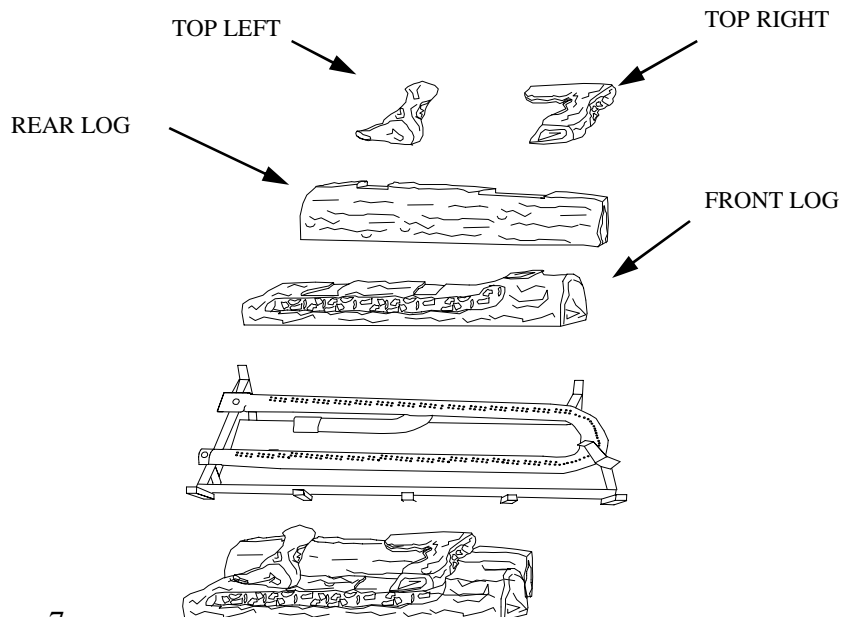

Figure 7
**WARNING: POSITIONING OF LOGS IS VERY CRITICAL (SEE FIGURE 7).**
- (1) POSITION REAR LOG (#2) , IN REAR LOG HOLDERS, CENTERING LEFT TO RIGHT.
- (2) PLACE FRONT LOG (#1) OVER FRONT PART OF BURNER TUBE. LOCATE LOG IN CENTER OF BURNER BASE. MAKE SURE MIDDLE SUPPORT LEG OF FRONT LOG IS IN HOLDERS LOCATED IN CENTER OF BURNER BASE, JUST BEHIND FRONT PART OF BURNER TUBE.
- (3) TAKE RIGHT TOP LOG (#3) AND PLACE IT IN SLOTS LOCATED AT RIGHT SIDE OF FRONT AND REAR LOGS, FACING BURNER BASE.
- (4) PLACE LEFT TOP LOG (#4) IN SLOTS OF LEFT FRONT AND REAR LOGS.
- (5) WHEN IGNITING BURNER, CHECK AND MAKE SURE FLAME IS NOT TOUCHING EITHER SIDE OF LOG (#3), OR LOG (#4). IF FLAME IS TOUCHING LOGS ON EITHER SIDE, MOVE SLIGHTLY TO LEFT OR RIGHT TO ELIMINATE FLAME FROM TOUCHING EITHER LOG.